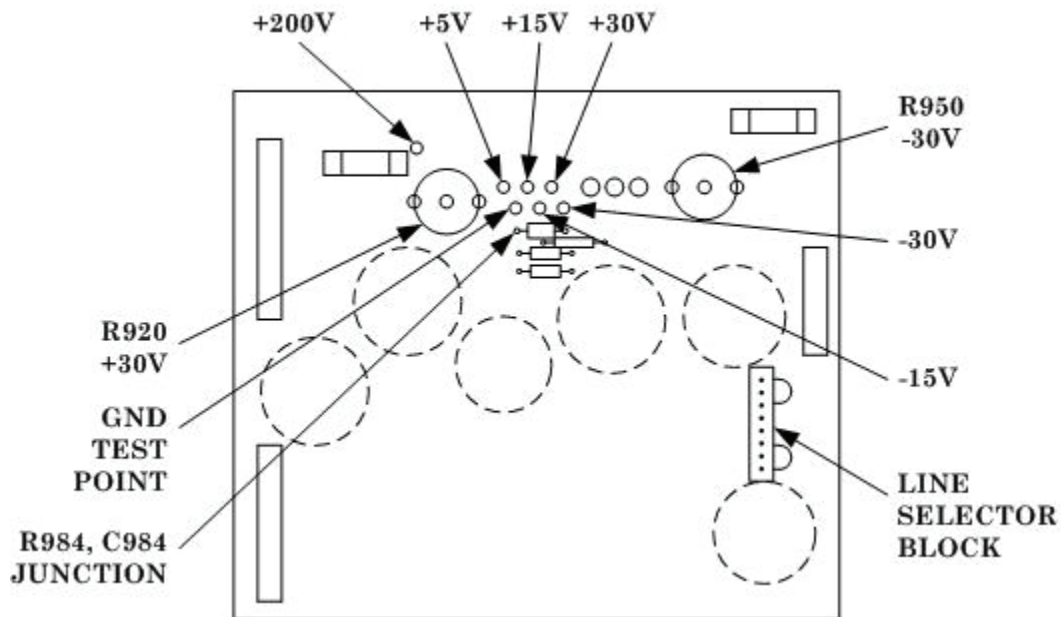

Figure 2. Power supply circuit board (bottom).
b. Remove top and bottom protective covers from TI. Insure that line selector block (fig. 2) for 120 V ac operation is installed.
f. Position TI controls as listed in (1) through (5) below:
- (1) Press TI **POWER** switch to off and connect probe between the junction of R984 (fig. 2) and C984 (fig. 2), and GND TEST POINT (fig. 2).
- (2) Connect multimeter between TI **CALIBRATOR** current loop and GND TEST POINT (fig. 2).
- (3) Pull TI **POWER** switch to on.
- (4) Multimeter should indicate between +396 and +404 mV dc.
- (5) Vary autotransformer between 105 and 125 V ac and observe that multimeter indication remains between +396 and +404 mV dc.
- (6) Press TI **POWER** switch to off and disconnect probe and adapter connected in (1) above.
- (7) Pull TI **POWER** switch to on.
- (8) Connect **CALIBRATOR** loop to vertical amplifier channel 1 **INPUT**.
- (9) Adjust **INTENSITY** control, vertical amplifier **VOLTS/DIV** switch, and time base **TIME/DIV** switch as necessary to obtain a square wave display.